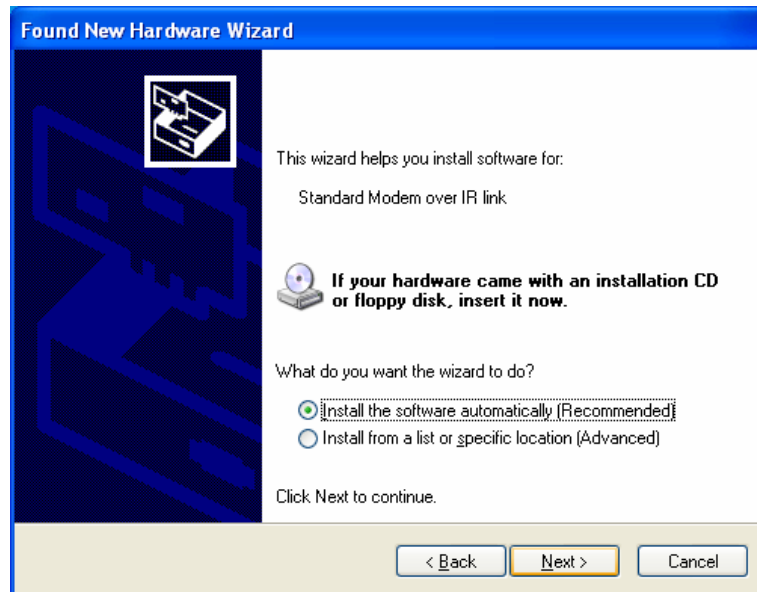

Figure 11 : First screen of 'Found New Hardware Wizard'
5. In the second screen (Figure 11), select **'Install the software automatically (Recommended)'** and click **Next** to continue.